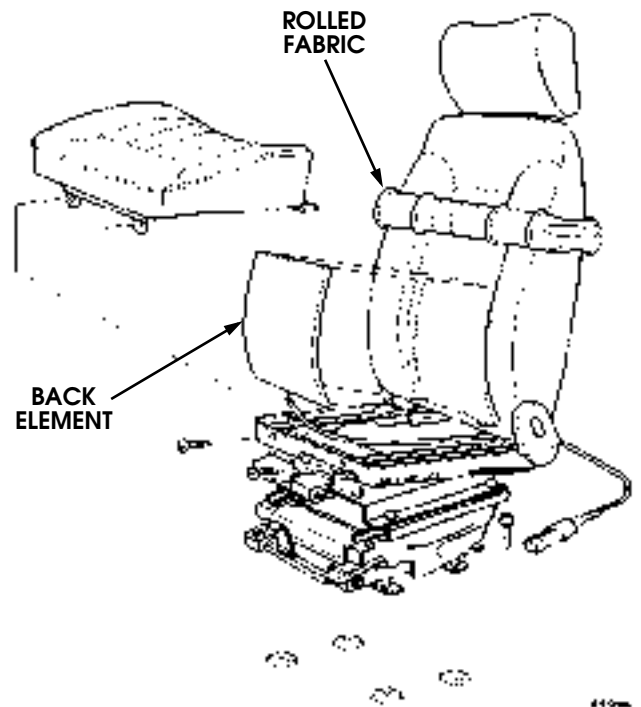

Figure 13-77: Back Element Removal.
11. Remove the heating element from the foam padding of the seat back (Figure 13-77).